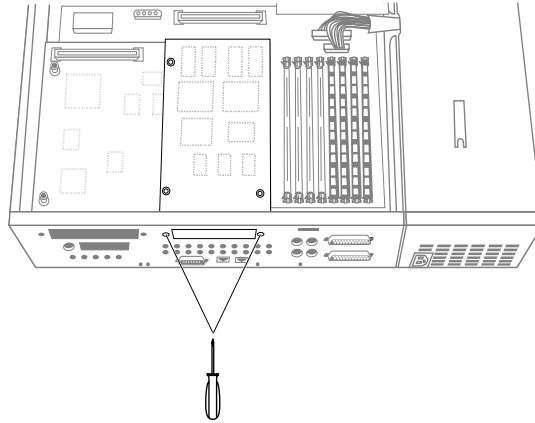
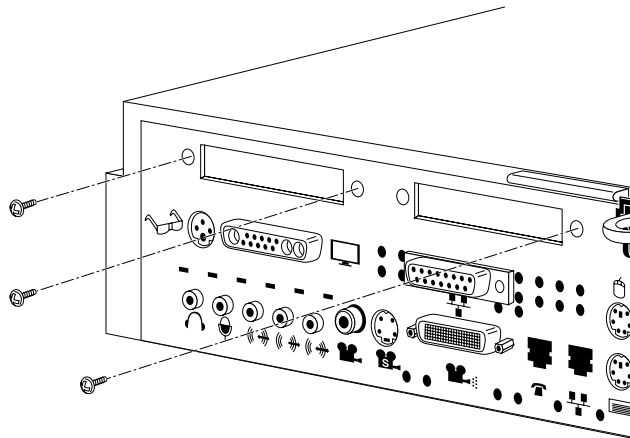

Figure 8-3 Removing the External Screws From a Single-Width Board
Figure 8-4 Removing the External Screws From a Double-Width Board
- Using the tool provided with the replacement GIO board, remove the screws from GIO board connector on the rear of the workstation. Figure 8-3 shows the screw locations for a single-width board; Figure 8-4 shows the screw locations for a double-width board.